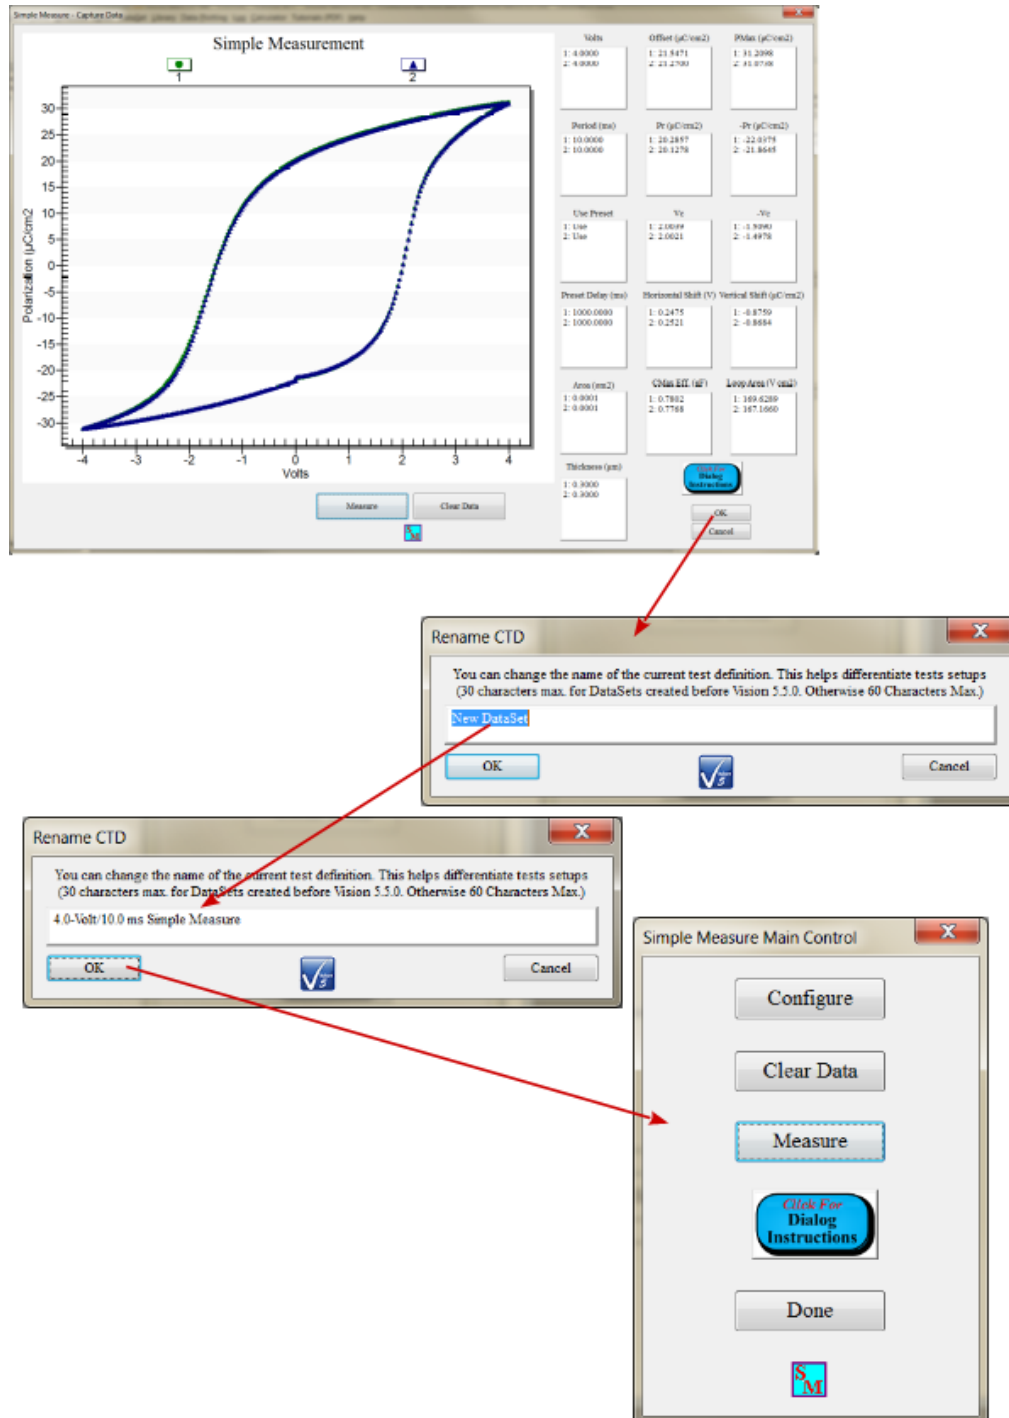

Figure 6 - Store Data and Return to Idle.
1. Click *Measure* to open the Measurement dialog. The dialog will appear as in **Figure 6**.